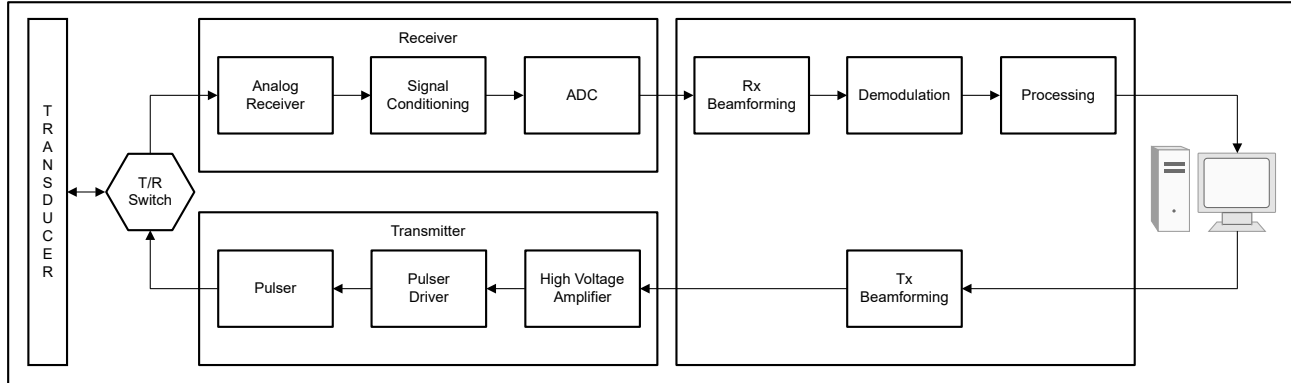

Figure 1. High-Level Block Diagram of How an Ultrasound System Operates
A typical NDT ultrasound system involves a transducer array, transmitter (pulsar) circuit, a receiver circuit and back-end hardware and software to capture, analyze, and display the measured ultrasound signal. As shown in Figure 1, the process begins with the user deciding the transmit waveform profile. The frequency of the transmit waveform and amplitude is determined by the depth of penetration and performance requirements of the system. Once the high-voltage waveform is generated, the digital pulsar drives the transducer in continuous wave (CW) or time gain compensation (TGC) mode through the transmit/receive (T/R) switch. A T/R switch is required to facilitate switching between transmission and reception so that the high-voltage waveform does not enter the low-voltage receive path. The transducer, which is in direct contact with the surface, converts the waveform to a high frequency radio wave. Once the wave reaches a surface, boundary, or opening, part of the wave is sent back as an “echo”. This echo is received by the transducer and is converted into an analog voltage. The analog voltage appears as a voltage input to the receiver and undergoes signal processing to enhance the desired signal and improve the dynamic range. This analog signal undergoes digital conversion, beamforming,